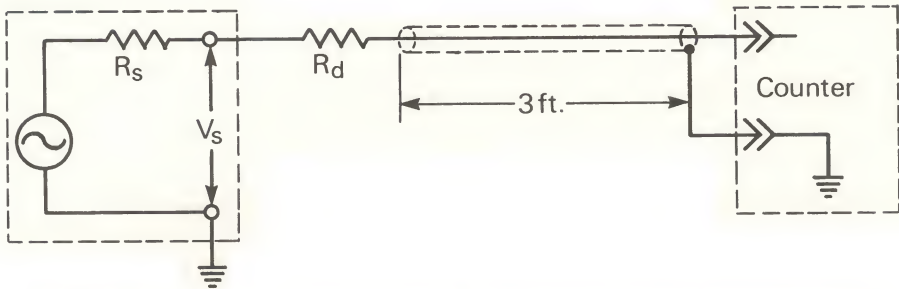
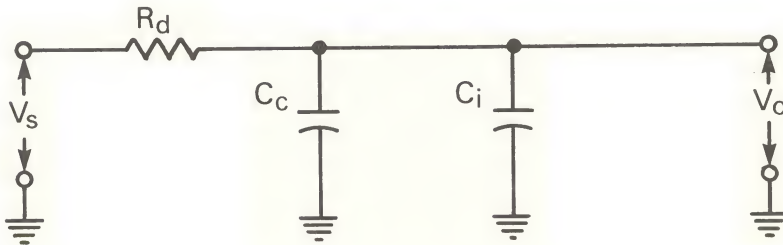

Fig. 15. Use of damping resistor when performing frequency measurements.
Fig. 16. Equivalent circuit.
A. DAMPING RESISTOR CALCULATION (Refer to Fig. 15 and 16)
Fig. 15 illustrates the use of a damping resistor when performing frequency measurements. As shown in Fig. 16, the cable capacitance, C_c , and the counter input capacitance, C_i , form a voltage divider. When a damping resistor, R_d , is added in series. In order for the damping resistor to have the optimum damping effect on ringing and overshoot, the value of R_d must be calculated. In order to calculate the value of R_d , the signal amplitude and frequency must be known. However, the frequency is usually unknown before the frequency measurement. Therefore, only the approximate value of R_d can be determined by estimating the source frequency. To maintain a minimum voltage of 30 mV RMS at the counter input (V_o), calculate the value of R_d using the following formula: